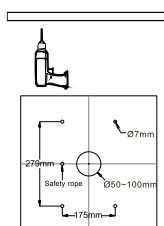

Figure 2
- 2.Use electric drill to set fixed holes through the ceiling(Figure 2)..